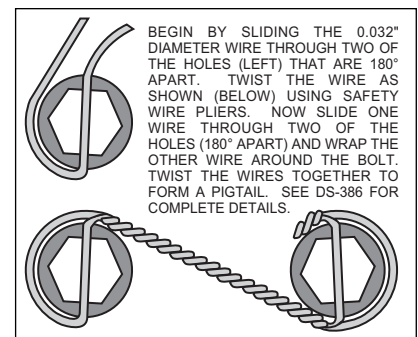

Figure 2. Safety Wire Diagram
- Identify the left and right caliper mounting brackets (1). Both brackets will be offset to the rear of the vehicle with the threaded inserts and the beveled bolt holes facing the outside of the vehicle. Apply red *Loctite*® 271 to bolt threads (2 and 4) before assembly of the caliper bracket (1) to dust face plate of spindle. Insert the two upper mounting bolts (2) and the lower mounting bolt (4) through the caliper mounting bracket (1). Install two lock nuts (3) on the upper mounting bolts (2) and finger tighten. Install one washer (5) and one lock nut (6) on the lower mounting bolt (4) and finger tighten. Torque two bolts (2) to 47 ft-lb. Torque bolt (4) to 77 ft-lb. **NOTE:** Be sure the heads of the caliper bracket (1) insert nuts are facing outward toward the wheel.
- Install five new wheel studs (7) into the hub (8). Torque to 77 ft-lb. **NOTE:** There are two five lug patterns in the hub (5 x 4.00 and 5 x 4.50). Make sure of the correct hole pattern for the correct wheel application before installing studs into hub.
- Pack the large inner bearing cone (9) with high temperature disc brake bearing grease (available from your local auto parts store) and install into the backside of the hub (8). Install the grease seal (10) by pressing into the backside of the hub (8).
- Attach rotor adapter (11) to rotor (12) using six bolts (13). Torque bolts (13) to 180 in-lb. Safety wire bolts (13) using standard 0.032 inch diameter stainless steel safety wire as shown in Figure 2. Please refer to Wilwood's data sheet DS-386 (available at www.wilwood.org/ds386.pdf) for complete safety wire installation instructions. **NOTE:** The flat side of the rotor (12) lugs face toward the rotor adapter (11) with the dished side of the rotor adapter (11) facing away from the rotor (12).
- Mount the adapter/rotor assembly (11 and 12) to the hub (8) using five flat washers (14) and five bolts (15). Torque bolts (15) to 22 ft-lb. Safety wire bolts (15).
- Pack the small outer bearing cone (16) with high temperature disc brake bearing grease. Lightly coat the spindle bearing surfaces with bearing grease. Slide the hub/rotor assembly (8 and 12) with outer bearing cone (16) onto the spindle. Secure using existing spindle washer, existing adjusting nut and nut locking device (adjust bearings per original equipment manufacturer specifications).
- Install the dust cap (18) onto the hub (8). Friction created by the o-ring (17) on the dust cap (18) keeps it from unscrewing. The O.D. of the existing spindle washer may be larger than the I.D. of the dust cap (18) not allowing it to seat against the hub face. Some grinding of the washer O.D. may be necessary to clear the I.D. of the dust cap.
- With the bleed screws pointing up, mount the caliper (19) onto the caliper mounting bracket (1) using two bolts (21) and two lock washers (20). View the rotor (12) through the top of the caliper (19). The rotor (12) should be aligned in the center of the caliper (19). If not, loosen the two bolts (21) and adjust the caliper (19) by using 0.032 inch thick shim washers (22). The shim washers (22) should be placed between the caliper (19) and the caliper mounting bracket (1). Finger tighten and recheck alignment. Add as many shim washers (22) as necessary to achieve the correct alignment. Always use the same amount of shims on both the top and bottom caliper mounting bolts (21). Loosen the two bolts (21) and apply red *Loctite*® 271 to bolt threads (21) and torque to 30 ft-lb. Safety wire the two bolts (21).
- Install the disc brake pads (23) and secure using cotter pin (24). Repeat this procedure for the other wheel.